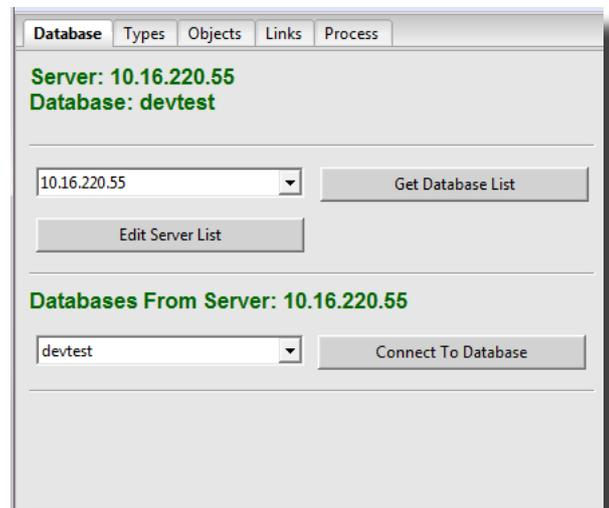

Figure 30: Plant Editor - Successful Connection
- c. If the connection is successful, the IP of the server and the name of the database will appear on the top of the page in green text (Figure 30).